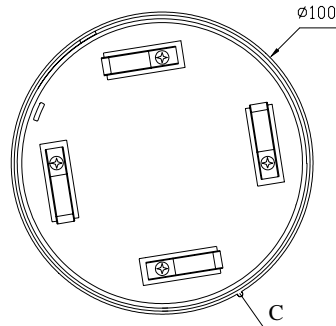

Fig.3 Bottom of the detector
2. The bottom and orientation base of the detector are shown in Fig.3 and 4. There are four terminals with numbers on the base, "1" connects with the anode of the output end of compatible controller, "2" connects with the power anode of the next detector as output (terminal No. "1"), "3" connects with the power cathode of the next detector (terminal No. "3") and the cathode of the output end of compatible controller. "1" connects with anode of remote LED, "4" connects with cathode of remote LED. There are location elements on the detector and the orientation base to ensure there is only one installing position. There are two marks on point A and